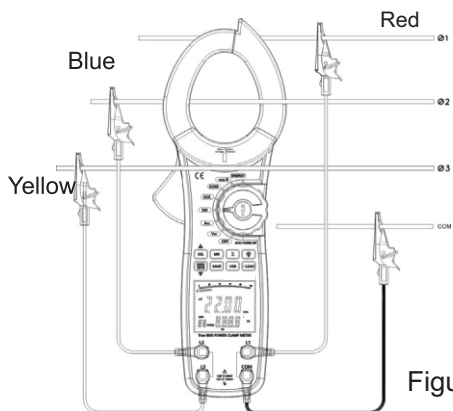

Figure 6
3. Connecting method (see figure 6, 7, 8):
- When measuring 3 phase 4 wires, connecting the Meter as figure 6.
In figure 6  $\Sigma W = W1 + W2 + W3$ .
3. The connecting method of 3 phases 4 wires or 3 phases 3 wires, refer to figure 6 and 15
3. The connecting method of 3 phase 4 wires and 3 phases 3 wires, see figure 6 and 15